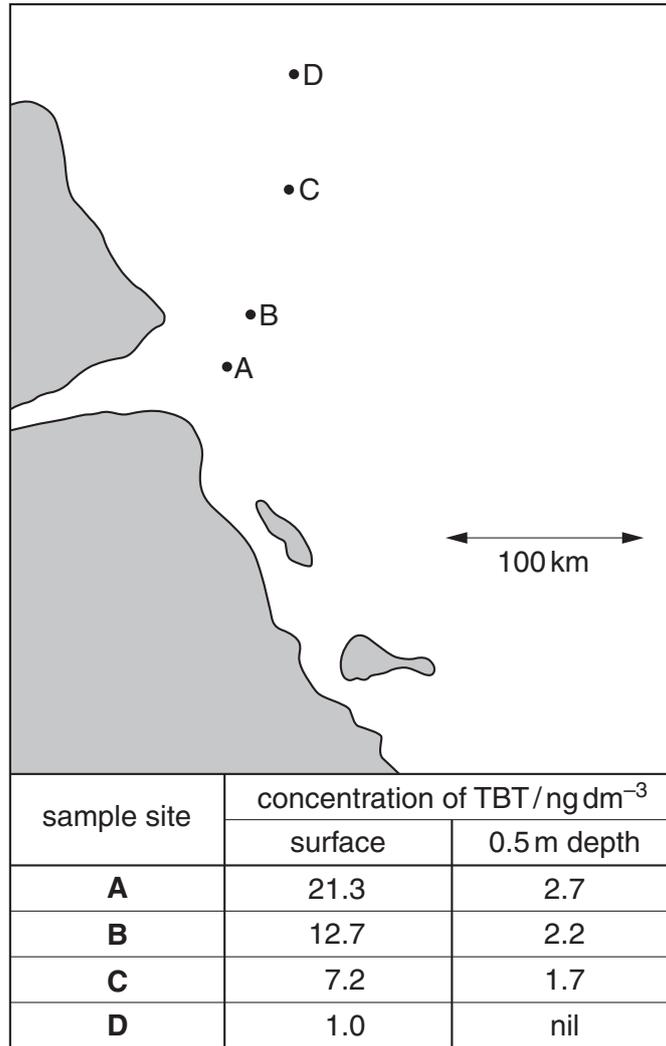

Fig. 2.2
- (f) Tributyltin compounds (TBT) cause serious harm to invertebrates. The diagram, Fig. 2.2, shows the concentration of TBT at various places in the sea.